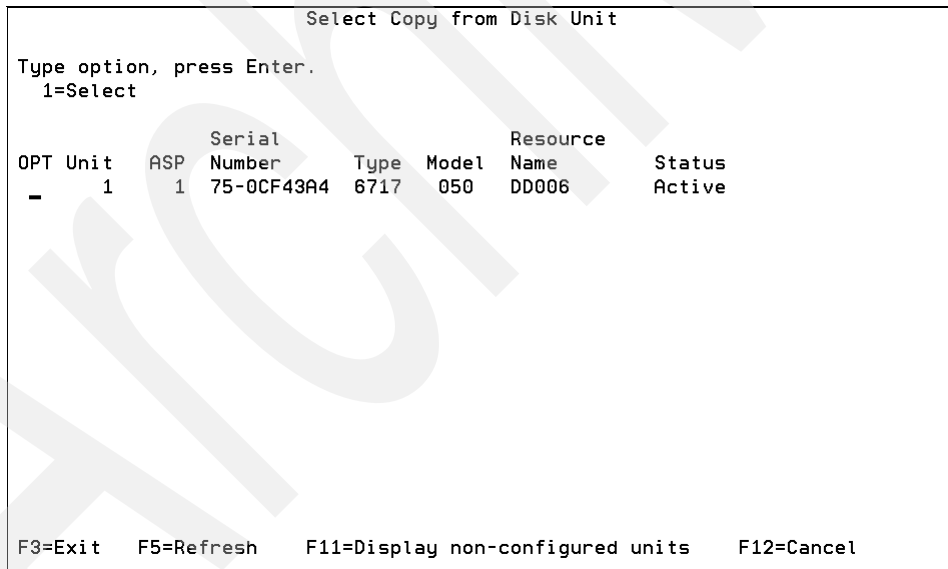

Figure 3-32 The Select Copy from Disk Unit screen
- b. At the Select Copy from Disk Unit screen (Figure 3-32), select unit 1.